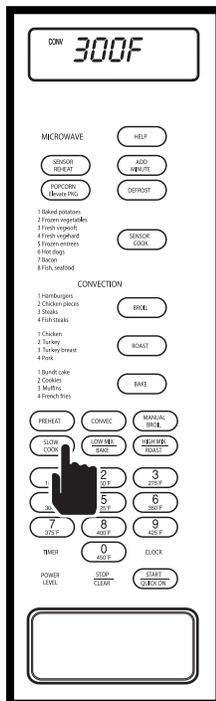

Figure 3-85.
1. Press SLOW COOK key, “300F - 4HOURS - PRESS - START” will flash on display. (See Figure 3-85)